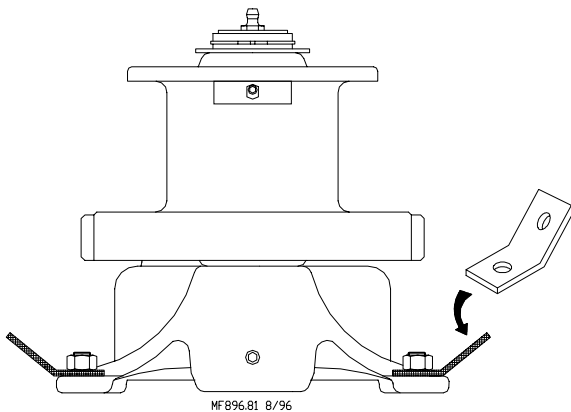

Figure 9. (End View)
2. Attach the Power Winch to the winch support 2" x 8" [50 x 200mm] board or angle iron fixture. Install a Cable Hook (#2985) between the mounting bolt and Power Winch frame, as shown in **Figure 9**.